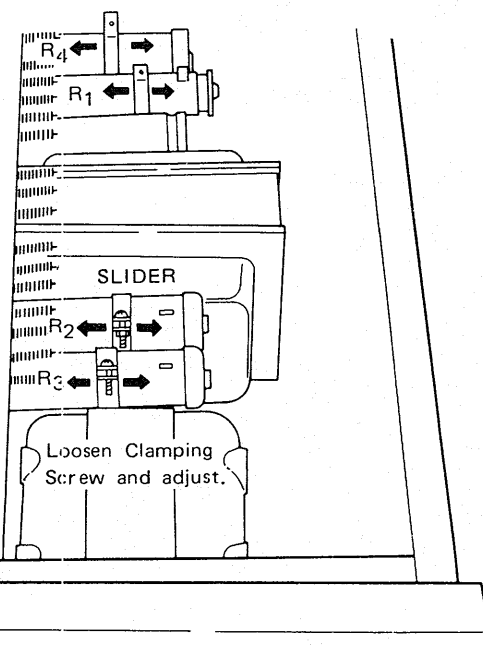

Fig. 21
3. Adjust slider (R_2 500 Ω) so that the gauge reads 93 ~ 110g (280 ~ 330g·cm) (Fig. 21).